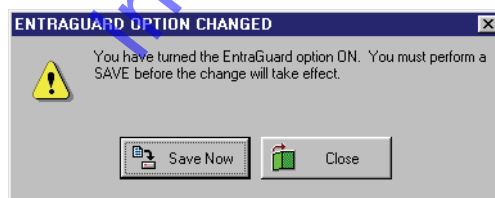

Figure 10-2: EntraGuard Option Changed - ON
- Click on the **EntraGuard ON** check box. A check mark appears in the box. Because the changes required to implement the EntraGuard feature make major changes to the *Doors* program and its supporting databases, a confirmation window appears (see Figure 10-2).